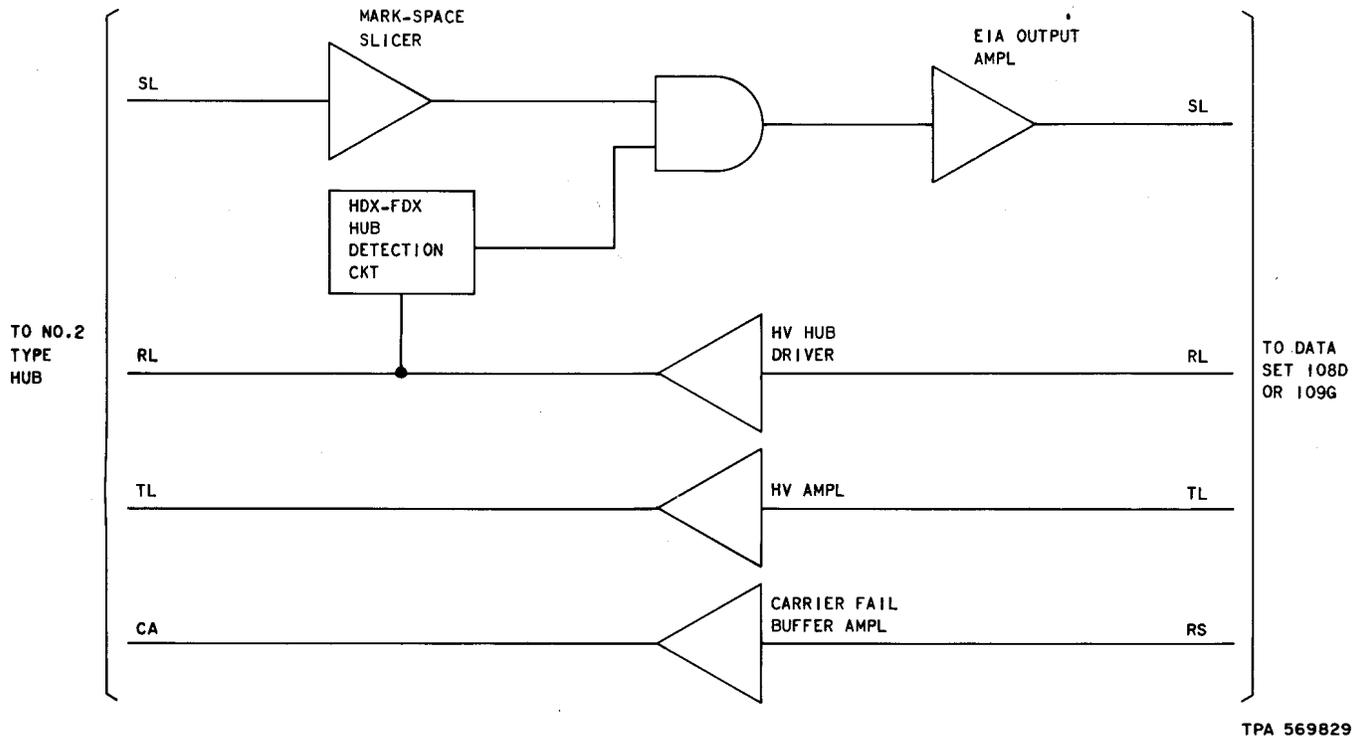

Fig. 4—Data Auxiliary Set 811K—Functional Block Diagram
3.01 A functional block diagram of the DAS 811K is shown in Fig. 4.